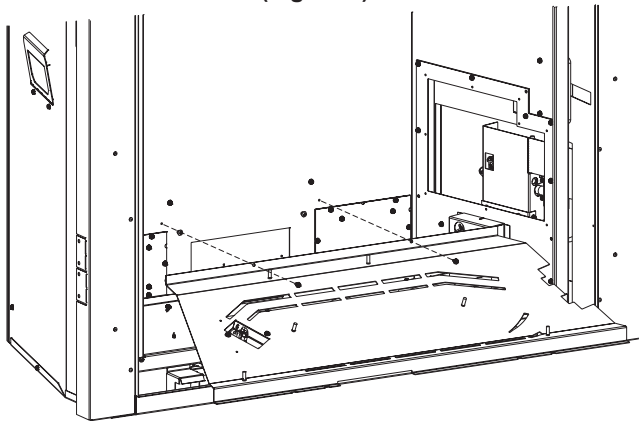

Figure 8
3. Remove burner base. (Figure 8)